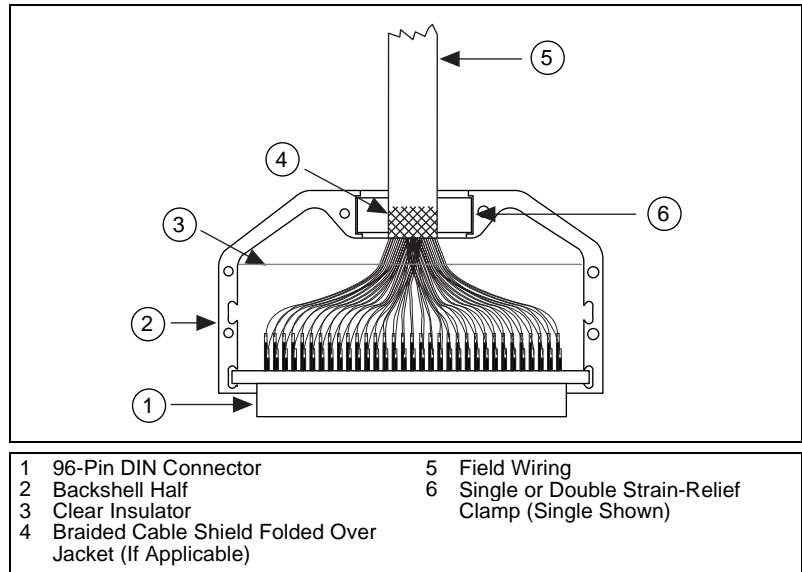

Figure 2. SBS-96F Backshell Internal Assembly
6. Remove the adhesive backing from the clear backshell insulators and install them to each backshell half as shown in Figure 2.
7. Install the appropriate strain-relief clamps (single or double), the 96-pin DIN connector, and your field wiring into one of the backshell halves. The orientation of the 96-pin DIN connector in the backshell half is not important. See the backshell internal assembly in Figure 2.